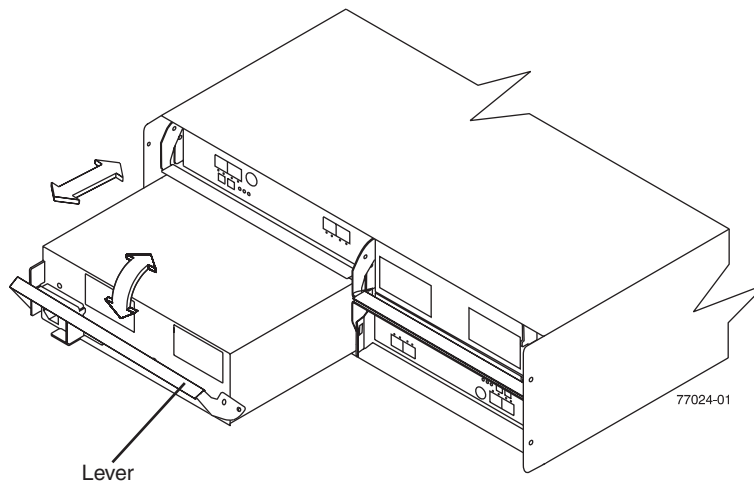

Figure 60. Replacing a power supply and fan unit
Use the following procedure to replace an AC power supply and fan unit. Figure 60 on page 116 illustrates removing and inserting a unit.
11. Slowly pull the lever away from the chassis to remove the power supply and fan unit, as shown in Figure 60 on page 116.
Use the following procedure to replace a DC power supply and fan unit. Figure 60 on page 116 illustrates removing and inserting a unit.